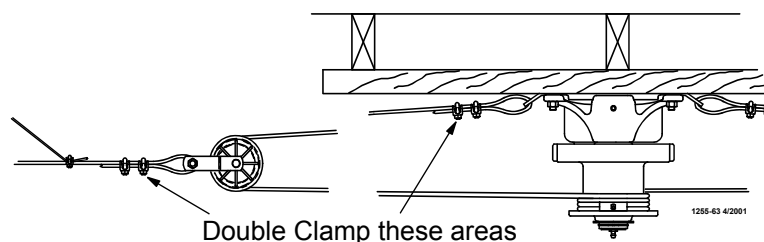

Figure 10. Double back arrangement for feed lines over 350' [107 m]
- Extend the 3/16" [5 mm] Main Winch Cable the full length of the feeder line. Attach the cable temporarily to the ceiling with nails, staples, or some type of fasteners. **Figure 10** shows a double back arrangement for feed lines over 350' [107 m].